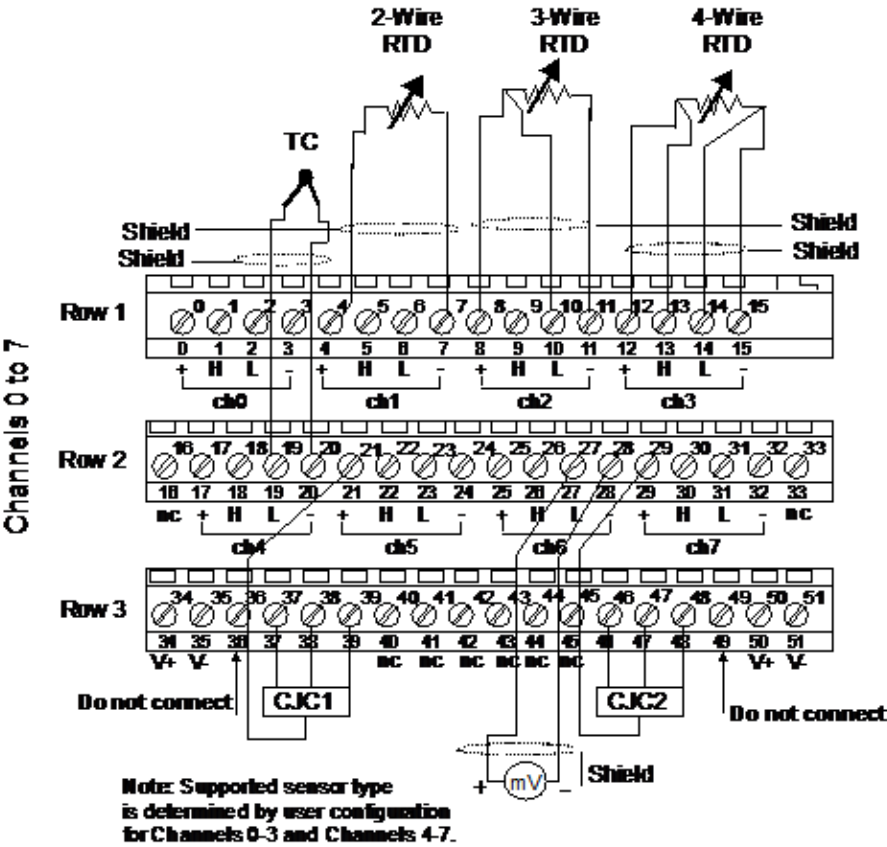

Figure 15: Typical Temperature Input module connections.
- d Refer to Figure 15 for typical input connections.
The sensor type accepted as inputs to Channels 0 to 3 and Channels 4 to 7 are user configurable. This means that Channels 0 to 3 could be configured to accept RTD inputs from a selected sensor type and Channels 4 to 7 could be configured to accept Thermocouple inputs from a selected sensor type. If the Thermocouple sensor type is millivolts, you can not mix straight millivolt inputs with Thermocouple inputs within the same channel group 0-3 or 4-7. Note that Figure 15 shows a mix of Thermocouple and millivolt inputs to channel group 4-7 for general reference only. This is not a valid wiring configuration.